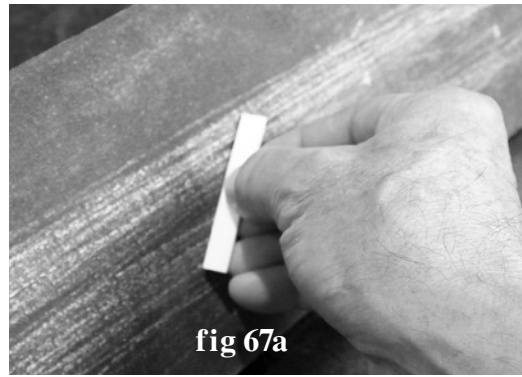
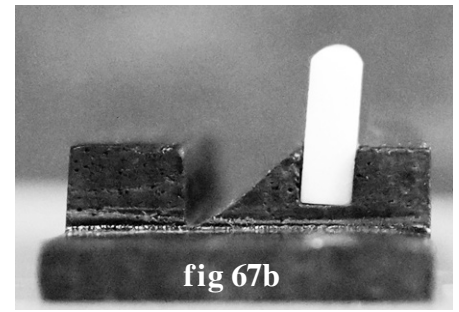

fig 67a
fig 67b
67. The white saddle for your bridge has sharp corners that might cause frequent string breakage if you don't round them over. Use coarse sandpaper (80-100 grit) to shape the top edges, as shown (fig 67a). Just a gentle rounding is all that is needed along the top of the saddle (fig 67b). Follow up with fine sandpaper to make the rounded edge smooth.